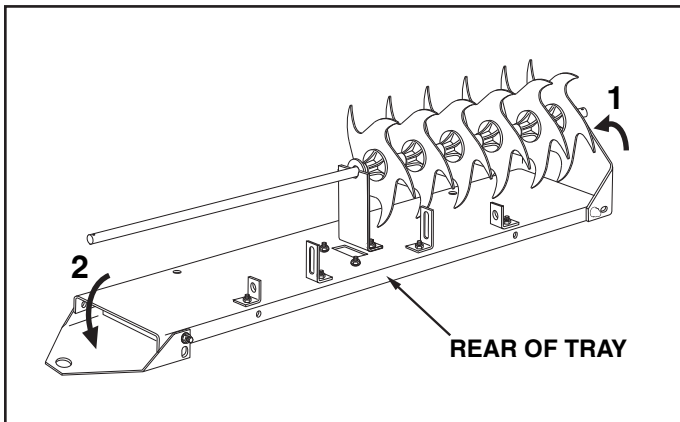

FIGURE 4
6. Pivot the end plate on your right side up onto the end of the axle. See figure 4.
7. Pivot the end plate on your left side down out of the way. See figure 4.